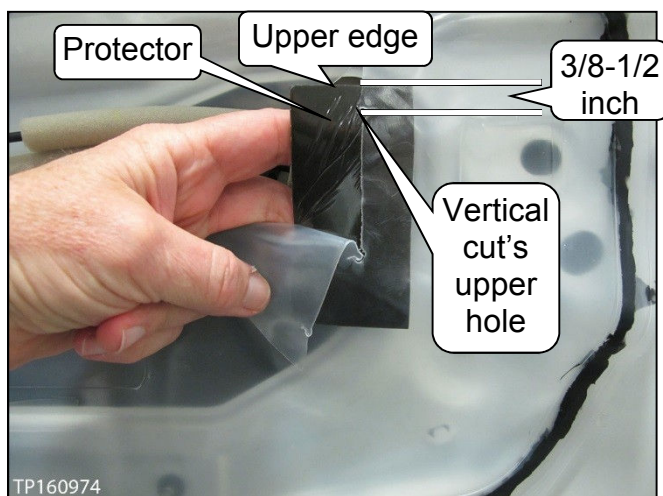

Figure 13
6. Apply one (1) piece of Protector (tape) where shown in Figure 13 and 14.
- Upper edge: 3/8 – 1/2 inch (10 – 13 mm) above the vertical cut's upper hole (see Figure 13).